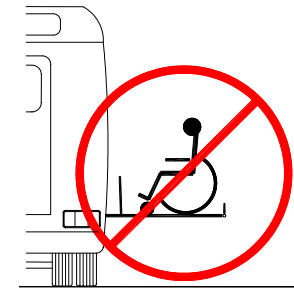

FIGURE 2-2: VMI RECOMMENDS PASSENGERS FACE OUTBOARD WHEN RIDING LIFT PLATFORM
- Refer to **Figure 2-2**. Due to variations in the size and configuration of mobility aids, for maximum safety, VMI recommends that passengers always face outward when riding the lift platform.